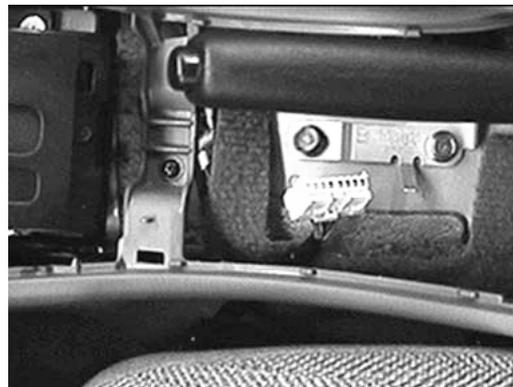

Figure 5
6. Route the male connector of the extension harness under the center console from the driver's seat side. See Figure 5.